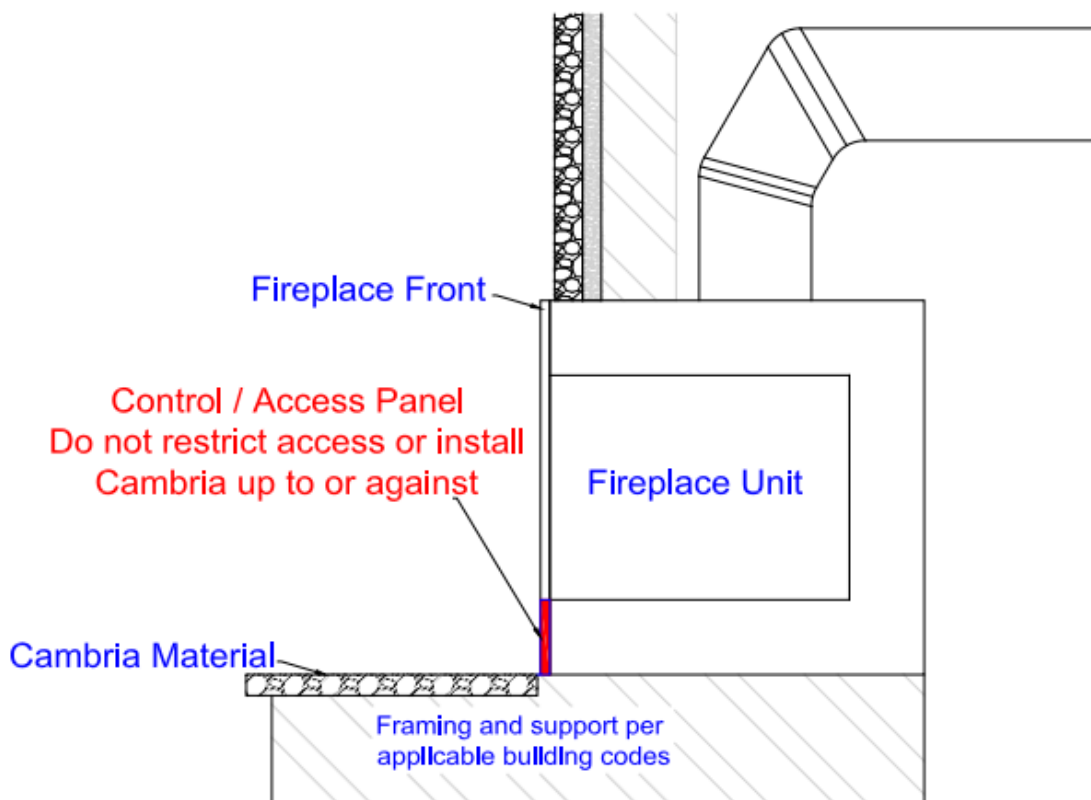

Figure 2
- a. Cambria product must be installed so it does not interfere or restrict access to the control panel of the fireplace per manufacturer's installation requirements. **See Figure 2.**